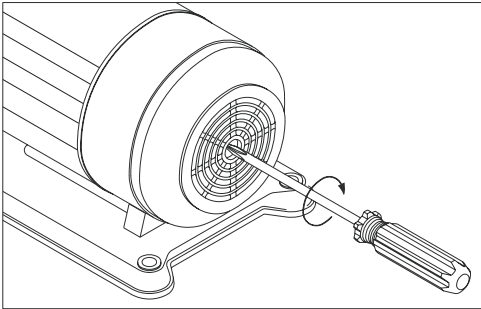

FIG.1
- 3. Insert a screw driver cross into the shaft slot , and turns the shaft 2-3 rounds to check if the pump runs normally , then open one faucet on the delivery side , the turn the power switch ON.(FIG.1)